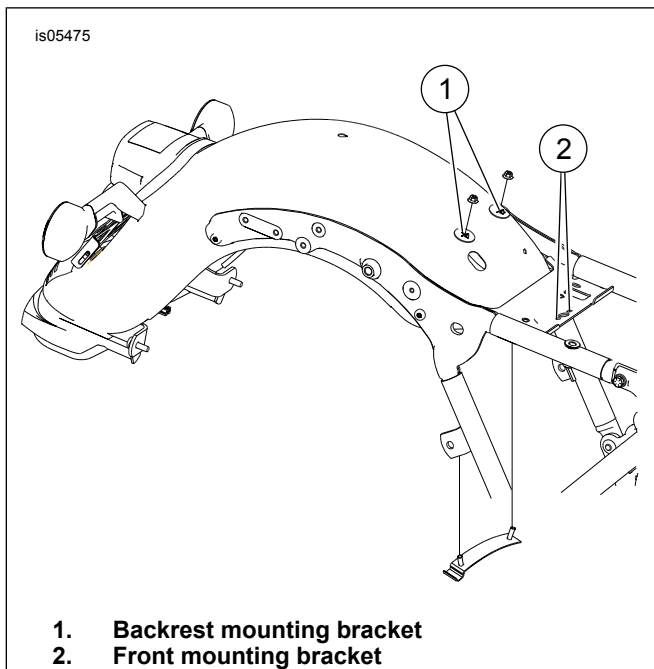
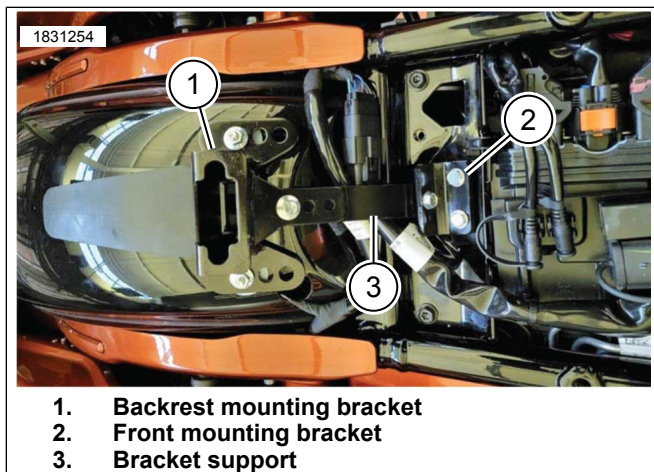

Figure 2. Bracket Mounting Locations
Figure 3. Backrest Mounted
1. See Figure 2 and Figure 3 for mounting locations of the brackets.